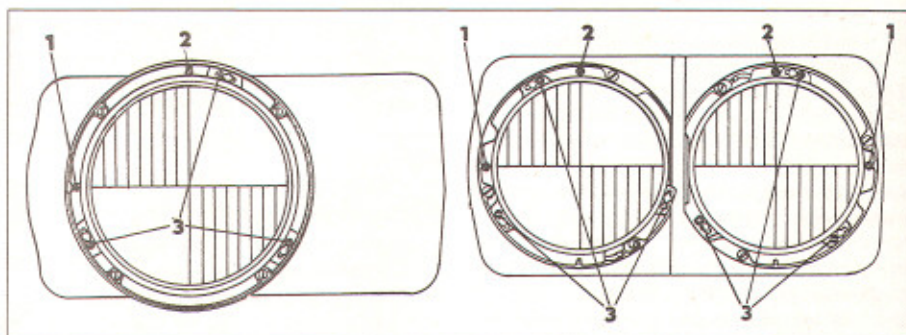

Fig. 10.5 Headlight adjustment screw positions – single and twin units (Sec 17)
- 2 Referring to Fig. 10.5, loosen off the three headlight unit retaining screws, rotate the light unit and withdraw it (photo).